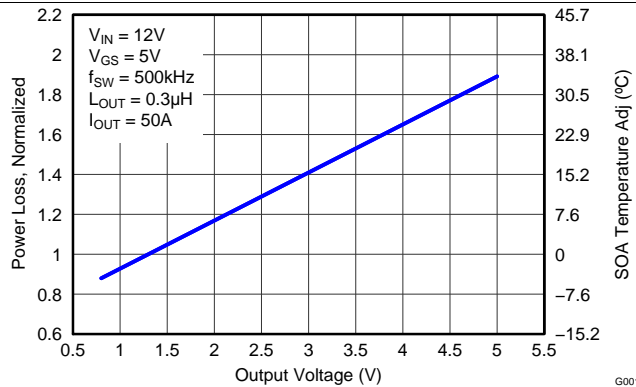

Figure 9. Normalized Power Loss vs Output Voltage
- Normalized power loss for output voltage ≈ 0.90 (Figure 9)
- SOA adjustment for output voltage $\approx -2.5^\circ\text{C}$ (Figure 9)